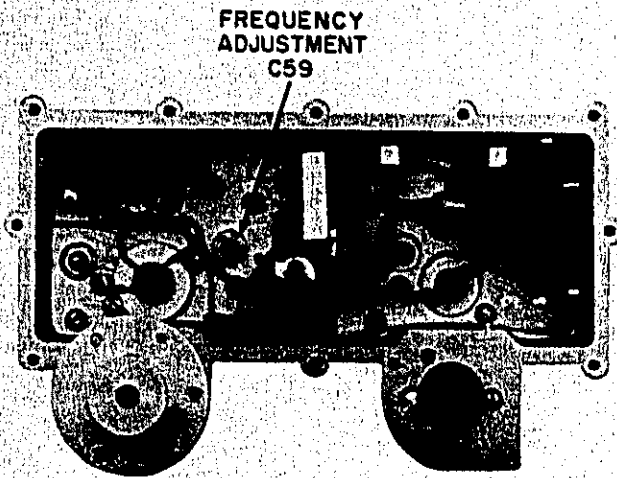

Figure 5-17. Location of RF Oscillator Adjustment
- e. Check counter frequency indication; counter should indicate 21 MHz  $\pm 0.5\%$  ( $\pm 105$  kHz). If not, adjust capacitor C59 (Figure 5-17) for proper counter indication.